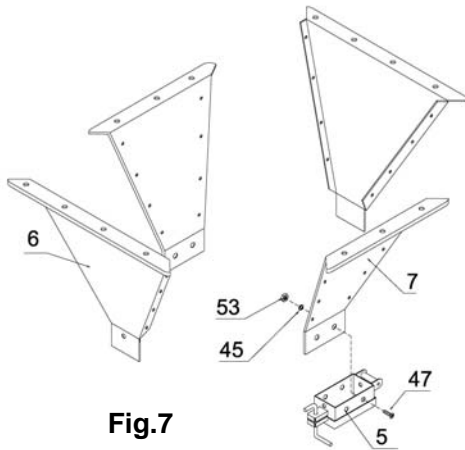

Fig.7
Step 7 – Funnel Assembly see Figure 7